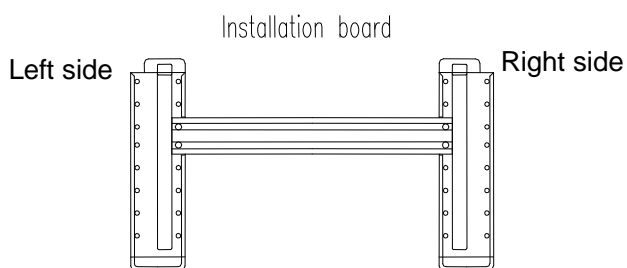

Fig. 4
- Drill holes as Fig. 4 shows. The hole, 80mm in diameter, should slightly slide down outwards..